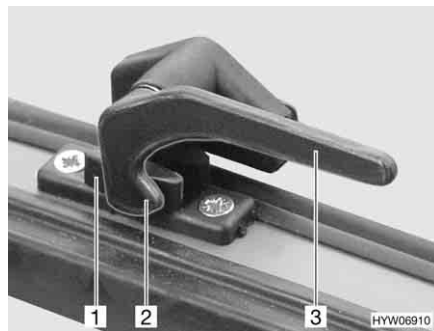

Fig. 70 Catch lever in "closed" position
- Turn the catch lever (Fig. 70,3) a quarter turn towards the centre of the window.
- Turn the catch lever (Fig. 70,3) a quarter turn towards the window frame. The locking catch (Fig. 70,2) is located on the inside of the window catch (Fig. 70,1).
- Firmly closed (Fig. 70)